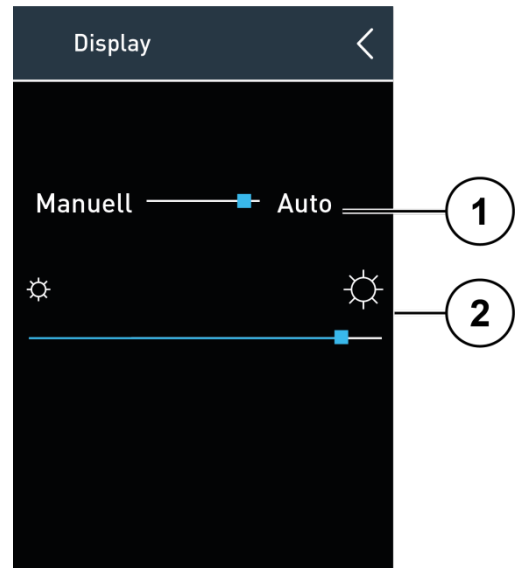

Fig. 15: Display settings
- The measured bright is displayed under the slide **(1)** switch (Fig. 15).